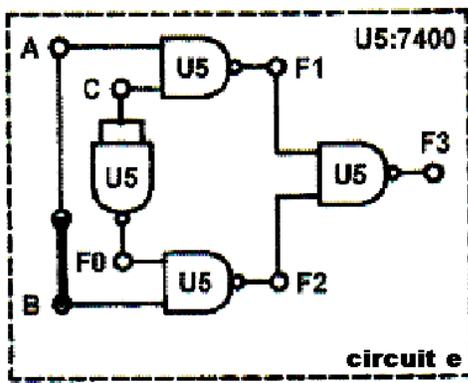

Fig. 2-75
1. Insert connection clip according to Fig. 2-75. Connect A to Data Switch SW0; C to SW3; F1 and F2 to Logic Indicators L0 and L1 respectively.